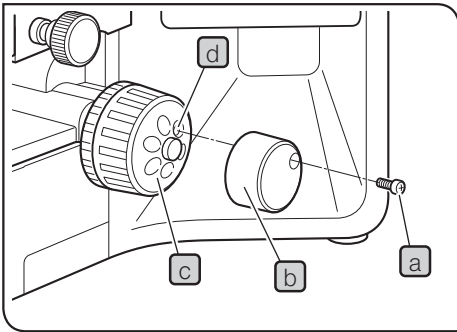

Fig.21
**3 Replacing the fine adjustment knob (Fig.21)**